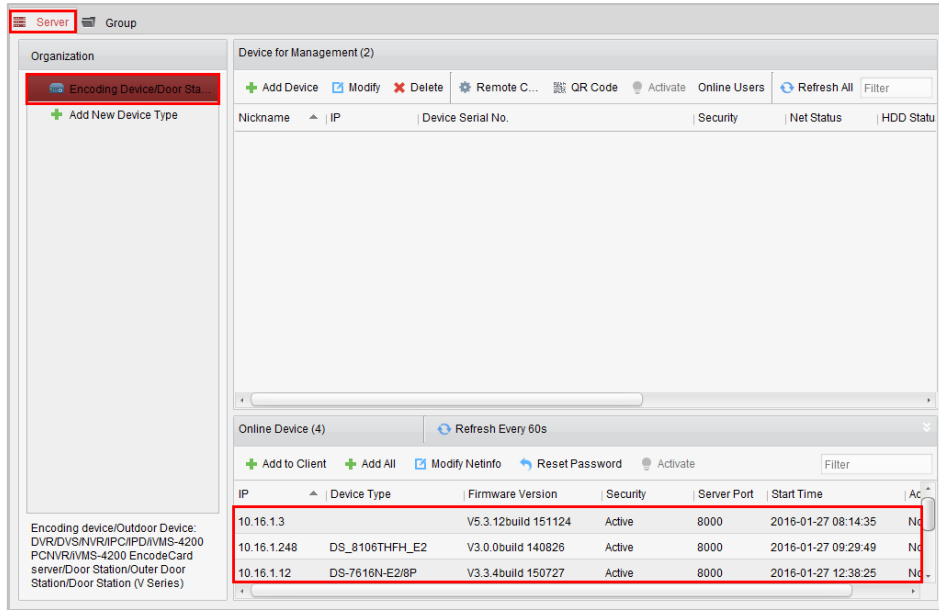

Figure 4-3 Device List
4. Click server tab to enter the server management interface. The online devices list is shown in Figure 4-3.